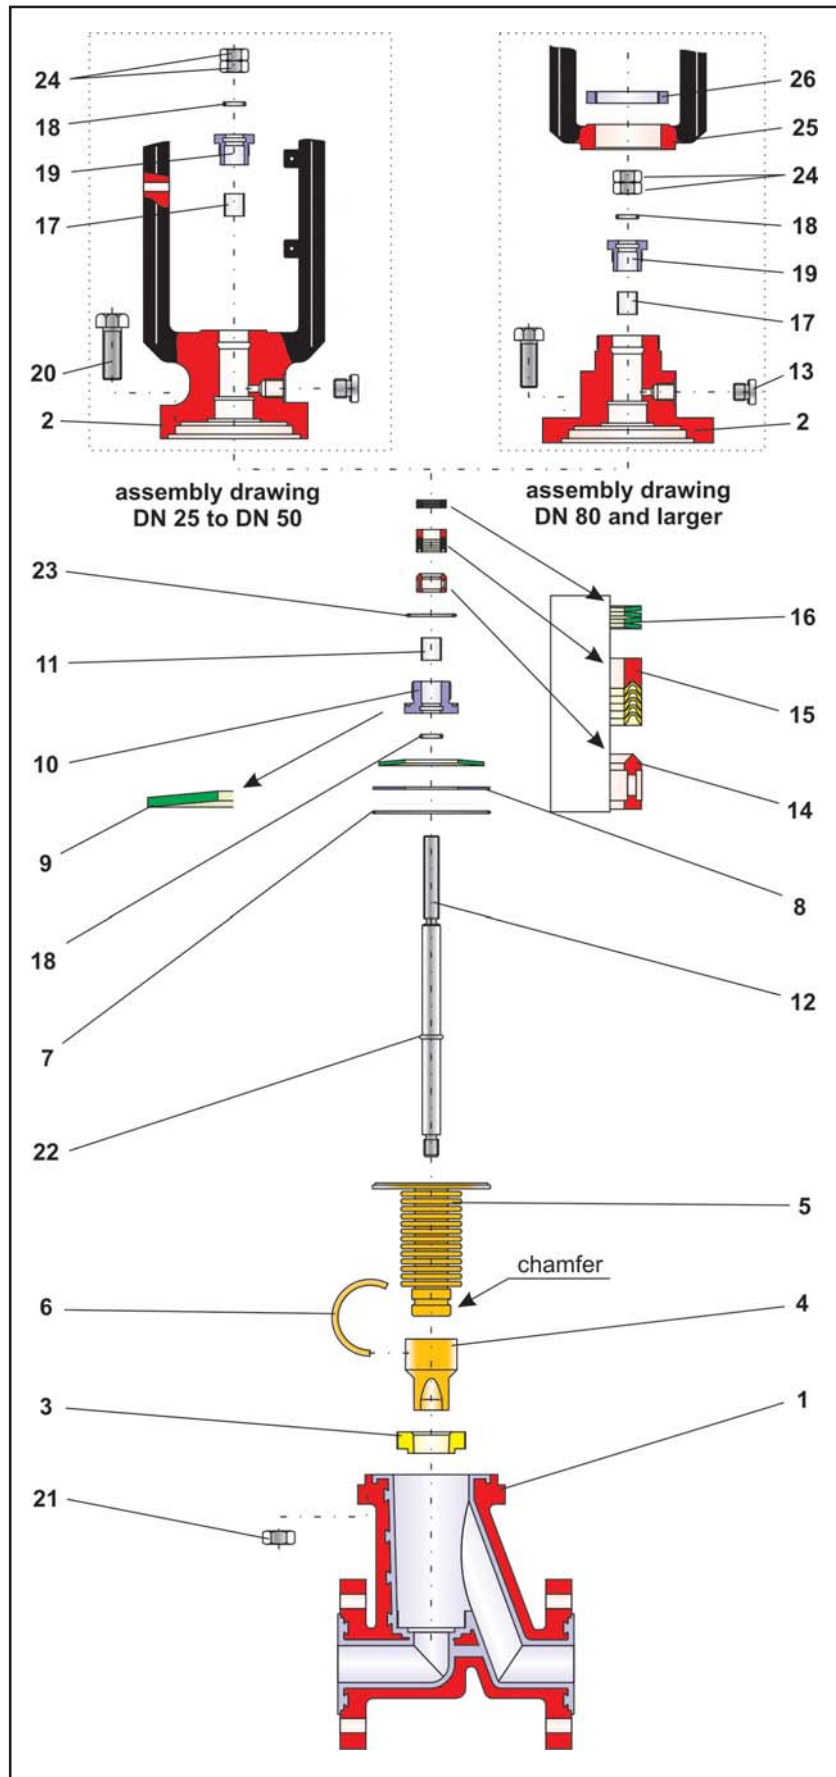

Fig 3 - Explosion drawing of the valve, Series 1b, from year 2006
Note: The position and arrangement of individual parts shown in (Fig. 3) must be observed when assembling the valve.
Place the spring washer set (16) in the intended bore. Refer to the explosion drawing (Fig. 3) for the layout and arrangement.
In the correct order, insert now the; End ring, the V-ring of the V-ring packing (15) and the distance bushing (14). Also here, refer to the explosion drawing (Fig. 3) for layout and arrangement.